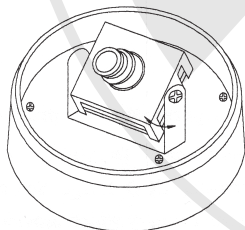

Figure 2
STEP 4: The vertical angle can be adjusted by loosening the 2 screws as shown in Figure 2 and by turning the camera housing vertically.